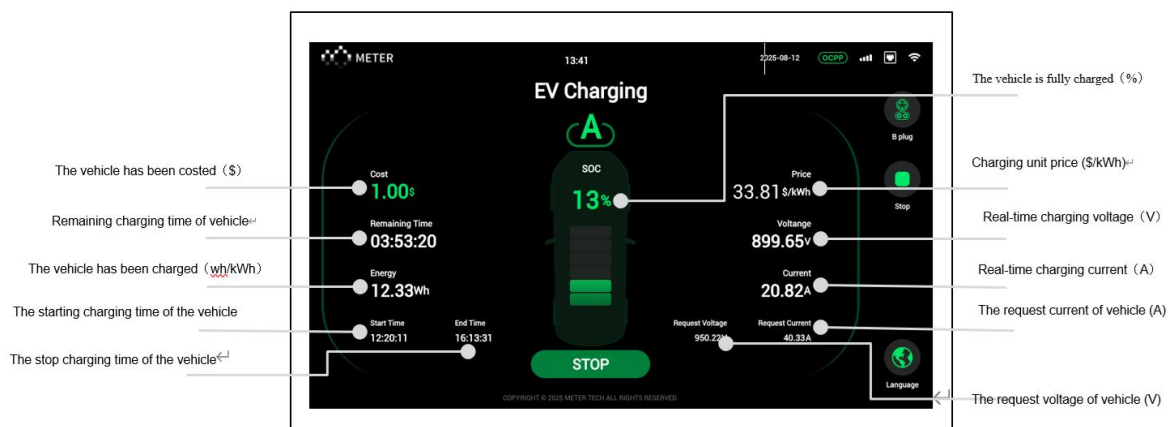

Figure 42. Chargin Interface
- Check vehicle charging details in real time (as shown in Figure 42)